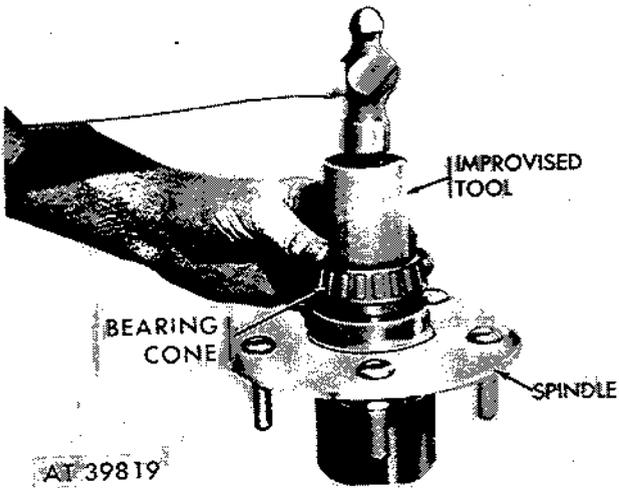

Figure 2-322. Install outer bearing on spindle.
(4) Pack bearing and cone with grease (GAA). Install outer bearing on spindle with improvised tool as shown in figure 2-322.
(5) Install drive flange (para 2-139) and spindle (para 2-138). Adjust wheel bearings (para 2-143).
- (4) Remove three bolts, and locknuts securing upper ball joint to suspension arm and remove suspension arm (fig. 2-322).